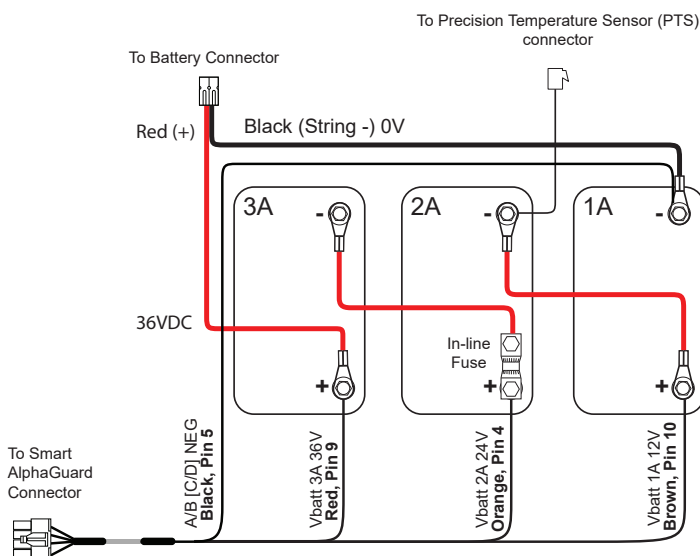

Fig. 2-1, Battery String Wiring Diagram
8. Verify correct battery voltage and polarity on battery cable connector (see Fig. 2-1) with a digital voltmeter; if correct, plug the battery cable connector into Inverter Module [9].